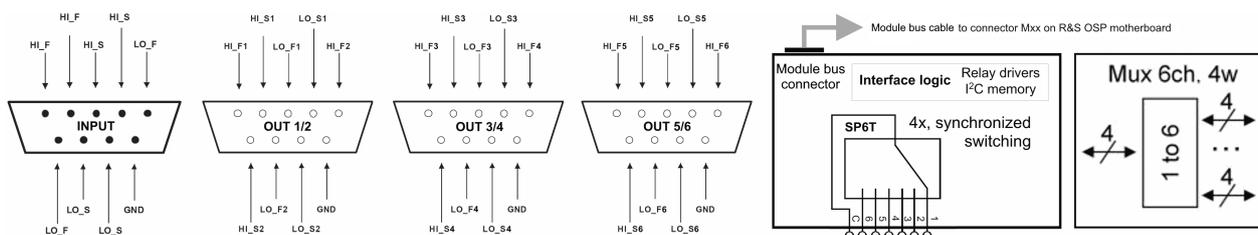

Figure 3-31: Pinout and block diagram of DC multiplexer module R&S OSP-B108
- The 4 **input** channels are available on the first 8 pins (in groups of 2) of the upper left 9-pin D-Sub connector (male). The remaining pin 9 is connected to ground (GND), see Figure 3-31.
- The **output** channels are available on the first 8 sockets, each, of the 3 other 9-pin D-Sub connectors (female). The remaining socket 9 of each output port is connected to GND, see Figure 3-31.